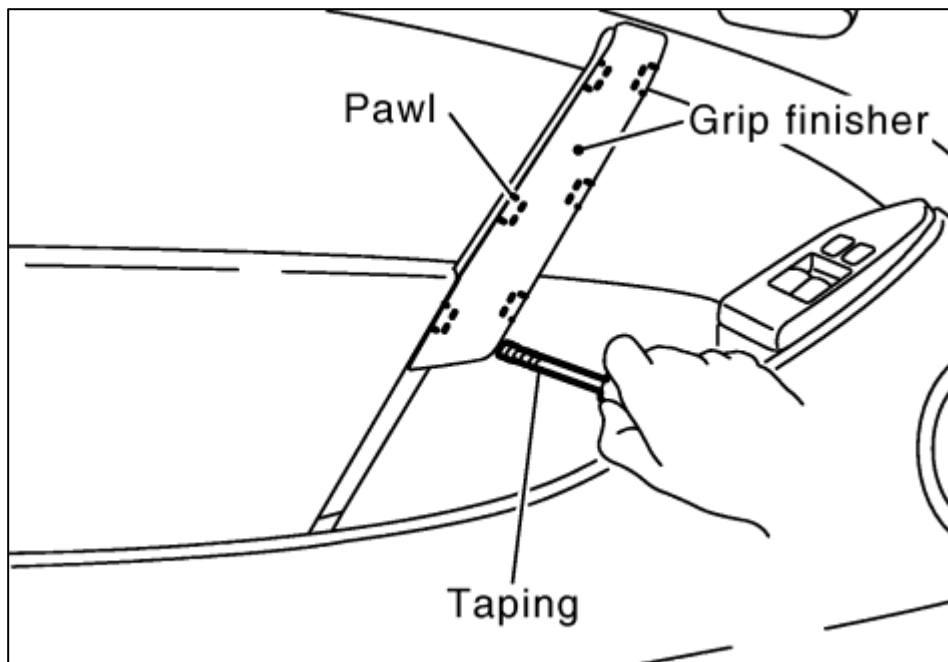

Figure 13
7. Remove the Handle Trim Piece with a Trim Removal tool. *Figure 13.*